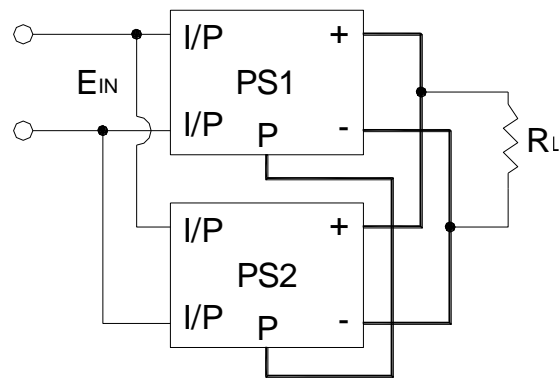

Figure 7.7: Wiring of S.P.S. with built-in parallel function
- (1) S.P.S. With Built-in Parallel Function: Connecting "P" terminals together such as the PSP models ("G" terminal also need to be connected together). Input/output should be connected in parallel first and then connect to the AC source/load just as figure 7.7 (some S.P.S. need a minimum load after paralleling).